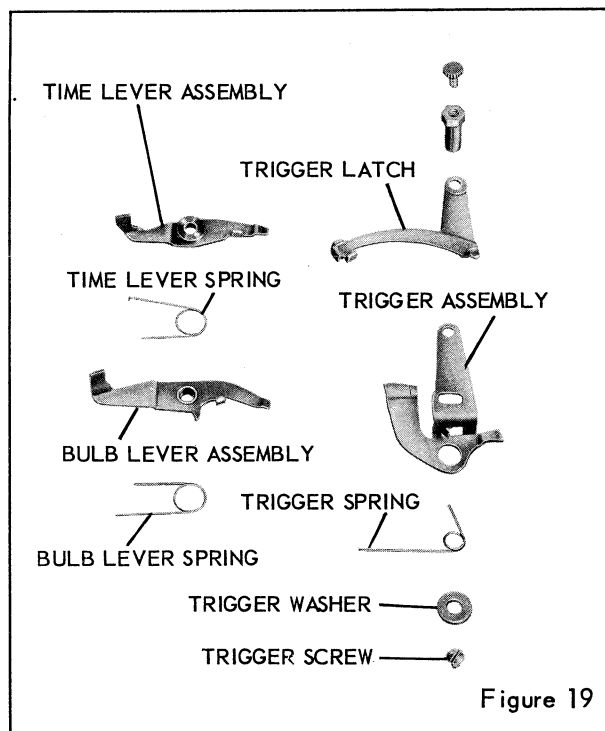

Figure 19
CAUTION: Do not touch the TRIGGER LATCH, figure 19, as it may release the winding gear spring tension.
4. Trip the shutter and lightly hold the winding lever down around the central collar on the cover. As the shutter is tripped, the end of the latch should fall into the slot on the cover. If it does not, add more tension on the trigger LATCH SPRING, figure 7. Check for a bind between the trigger latch and the TRIGGER ASSEMBLY, figure 19, at the point of attachment. The winding lever should contact the trigger latch, push the latch out of the slot in the cover, and open the shutter blades. After the shutter has been tripped, the latch should return to the position where it was resting on the ledge just above the small slot in the cover.
4. TRIGGER LATCH, figure 19.
5. TRIGGER SCREW, figure 19, TRIGGER SPRING, and TRIGGER WASHER.